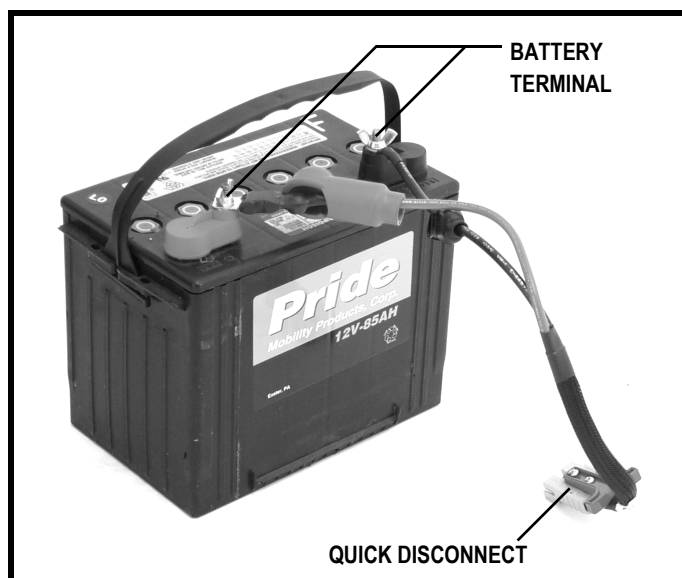

Figure 29. Battery and Harness
5. Locate the battery quick disconnects on the frame and disconnect both of them. See figure 29.